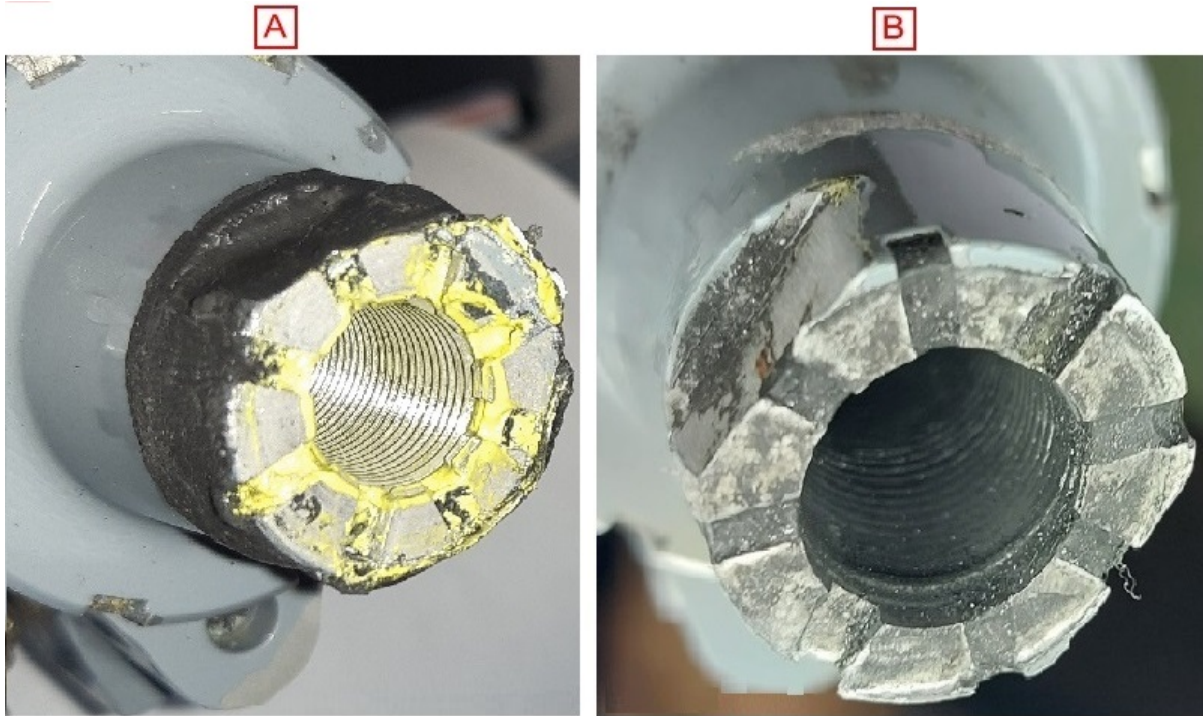

Figure 3
- Clean the threads on the inner surface of the upper end fitting of the Main rotor servo-control SC8034-2 (4) or Main rotor servo-control SC8034-1 (9) or Main rotor servo-control SC8033-2 (10) or Main rotor servo-control SC8033-1 (11) or Main rotor servo-control SC8032-2 (12) or Main rotor servo-control SC8032-1 (13) or Main rotor servo-control SC8032 (14) or Main rotor servo-control SC8031A (15) or Main rotor servo-control SC8031-2 (16) or Main rotor servo-control SC8031-1 (17) or Main rotor servo-control SC8031 (18) with Cleaning agent CM 208. Refer to Work Card Use of cleaning products on individual parts and on helicopters - Cleaning MTC 20-04-01-102
- 4.3.4.1. If there is oxidation, corrosion or damaged threads (Figure 3, Detail B), comply with paragraph 4.4.
- 4.3.4.2. If there is no oxidation, no corrosion and no damaged threads (Figure 3, Detail A), comply with paragraph 4.3.5.